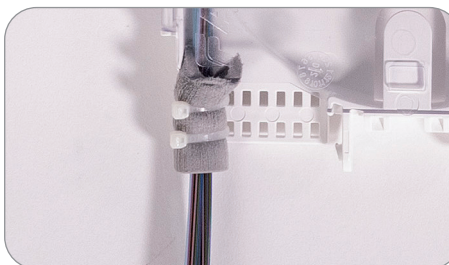

Figure 6
3. **Flat matrix ribbon or SWR or other ribbon:** Attach loosely until spliced modules are installed and all fibers are routed. Secure with AFL foam retention—included with kit (Figure 6).